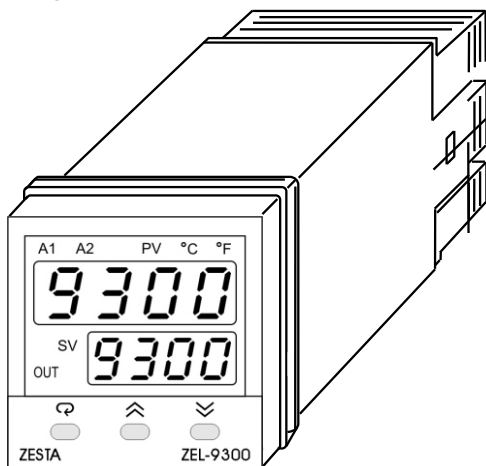

Figure 7.1
- (3) If the points listed on the above chart have been checked and the controller does not function properly, it is suggested that the instrument be returned to the factory for inspection. Do not attempt to make repairs without qualified engineer and proper technical information. It may create costly damage. Also, it is advisable to use adequate packing materials to prevent damage in transportation.
- (4) Dismantle the controller according to Figure 7.1.